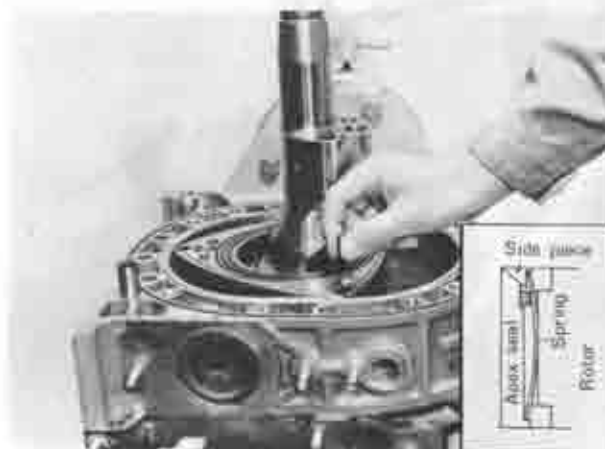

Fig. 1-66 Installing apex seal spring
1. Insert the each apex seal spring confirming the spring direction as shown in Fig. 1-66.
4. Fit the each side piece to its original position. And confirm that the spring should be set correctly on the side piece as shown in Fig. 1-66.